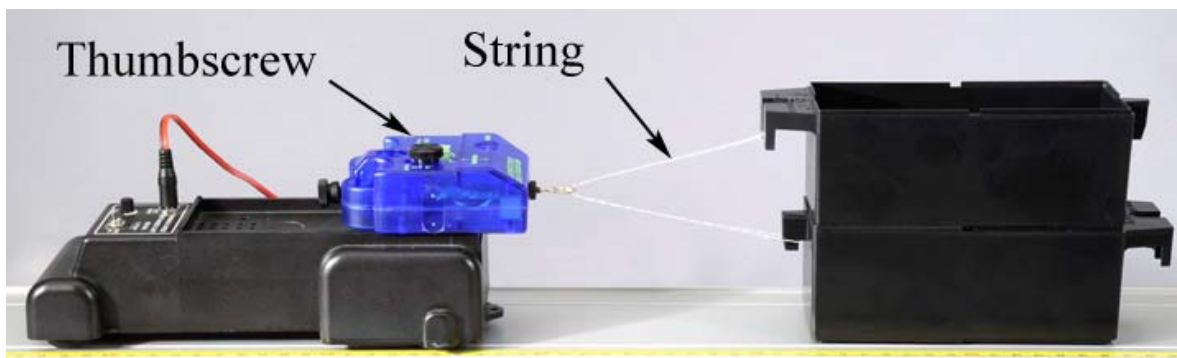

Figure 2: Towing the Friction Carts
3. Connect the Force Sensor to the PASPORT input P4. Using the long thumbscrew, attach the Force Sensor to the cart as shown in Figure 2. Place the Cart/Force Sensor assembly on the track. Change the sample rate to 10 Hz. Open the properties for the Force Sensor in the Data Summary and check the Change Sign box.
5. Connect the Friction Trays to the Force Sensor using string as shown in Figure 2. The lower tray should have the black felt surface. You must always pull with two carts stacked, so that the Force Sensor pulls level. For the top tray, use one of the trays with the white plastic on the bottom. The lower end of the string is just looped around the tray hook: This makes it easier to swap out the lower tray to change the surface.